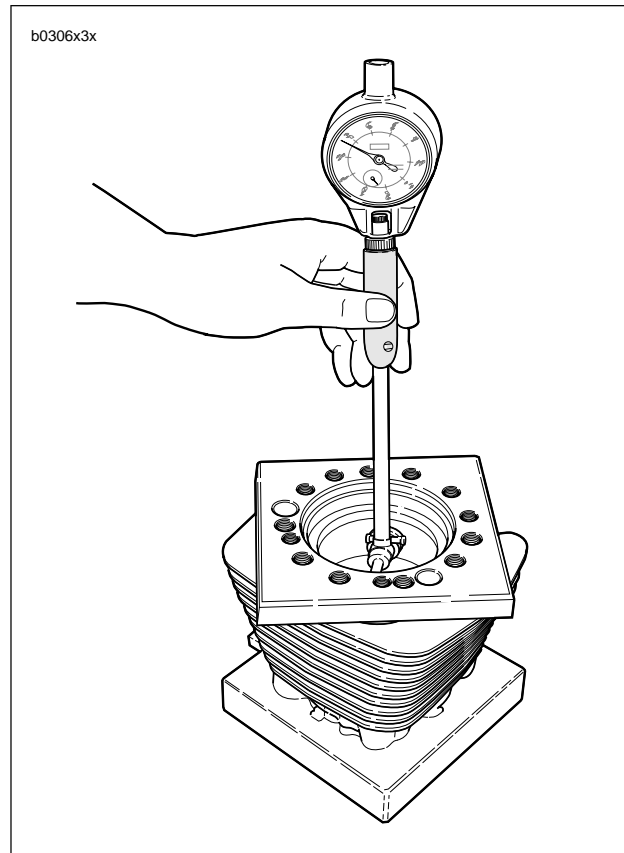

Figure 3-32. Measuring Cylinder Bore Using Torque Plates (Part No. HD-33446A)
2. See Figure 3-32. Install a head and base gasket, and CYLINDER TORQUE PLATES (Part No. HD-33446A) and XL EVOLUTION TORQUE PLATE BOLTS (Part No. HD-33446-86). Tighten the bolts using the same method used when installing the cylinder head screws. See 3.5 CYLINDER HEAD.